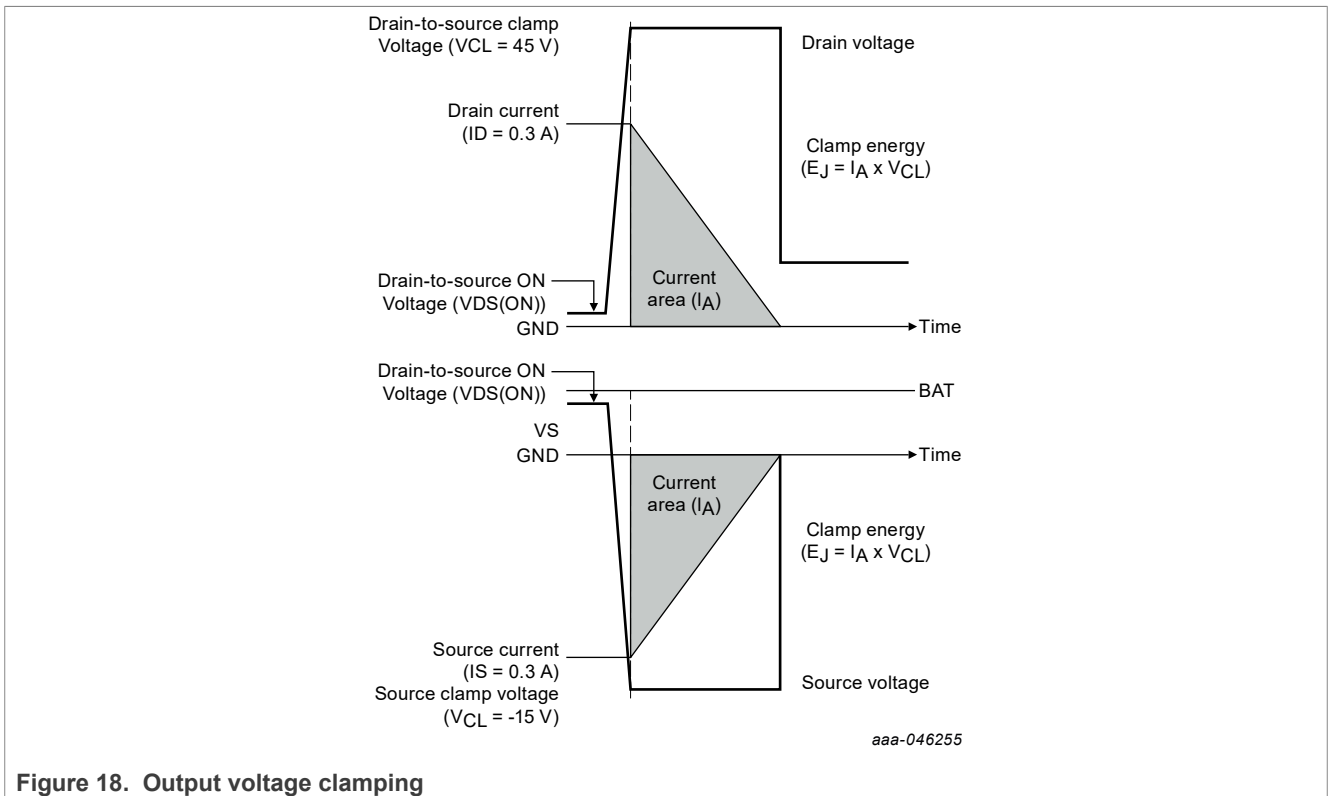

Figure 18. Output voltage clamping
Each output of the 33879 incorporates an internal voltage clamp to provide fast turn-off and transient protection of each output. Each clamp independently limits the drain-to-source voltage to 45 V for low-side drive configurations and -20 V for high-side drive configurations. The total energy clamped (EJ) can be calculated by multiplying the current area under the current curve (IA) times the clamp voltage (VCL). See Figure 18. Characterization of the output clamps, using a single pulse non-repetitive method at 0.35 A, indicates the maximum energy per output to be 50 mJ at 150°C junction temperature.